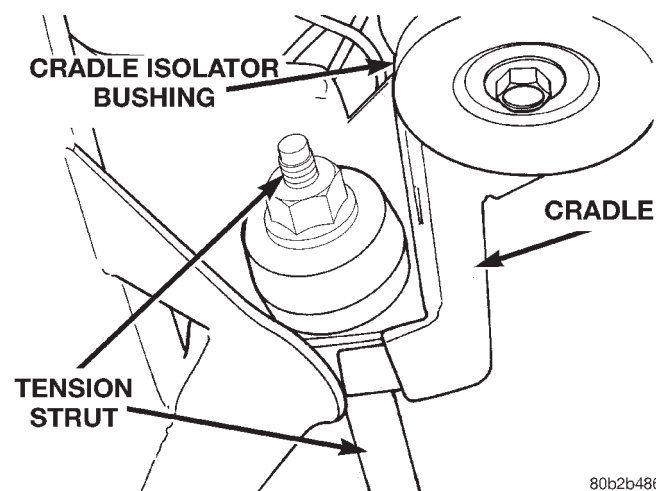

**Fig. 46 Tension Strut To Cradle Mounting**
(1) Install lower control arm and tension strut as an assembly back on the vehicle. See Lower Control Arm in the Removal and Installation section of this service manual for the required installation procedure.
(2) Install washer on end of tension strut (Fig. 46). Install a **NEW** tension strut to cradle bracket nut, on tension strut (Fig. 46).
(3) Tighten the tension strut to cradle bracket retaining nut to a torque of 130 N·m (95 ft. lbs.).